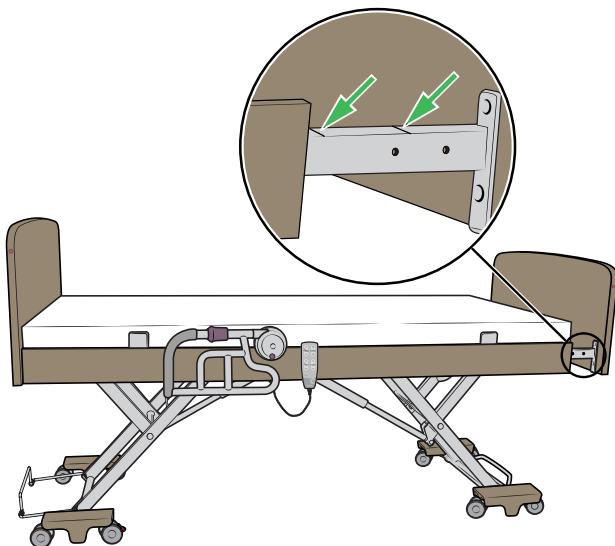

Figure 48
2. Pull out the footboard to the desired bed length. See markings on the bracket. See Figure 48.